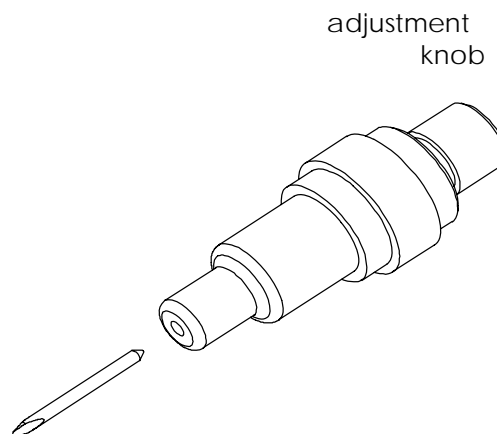

FIGURE 1-9
1. As shown in Figure 1-9, insert the knife blade into the knife holder using a pair of tweezers.